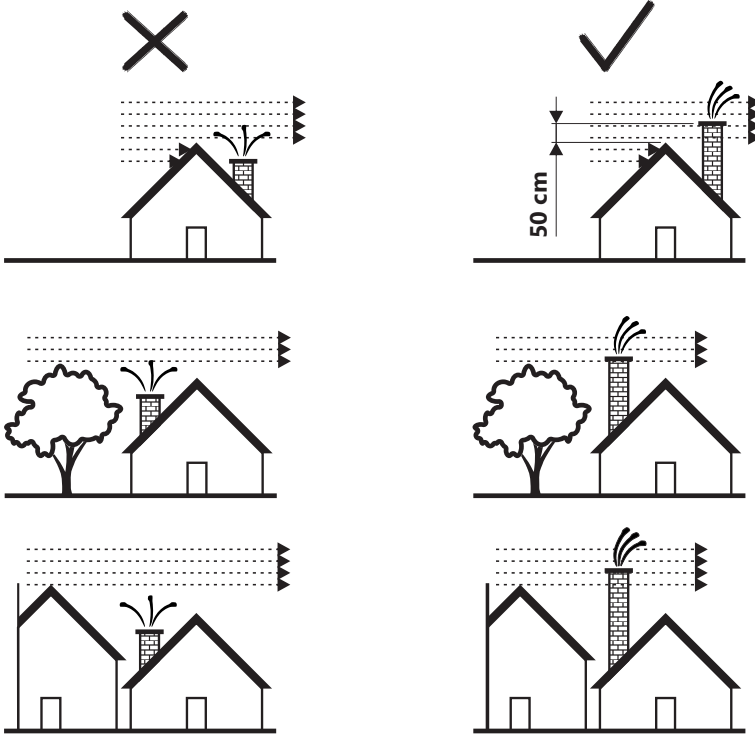

Figure 2a
- The flue must be at least 0.5 m higher than the roof and to exceed the height of facilities/obstacles that are in its vicinity (neighbouring house, a tree...) (Figure 2a).